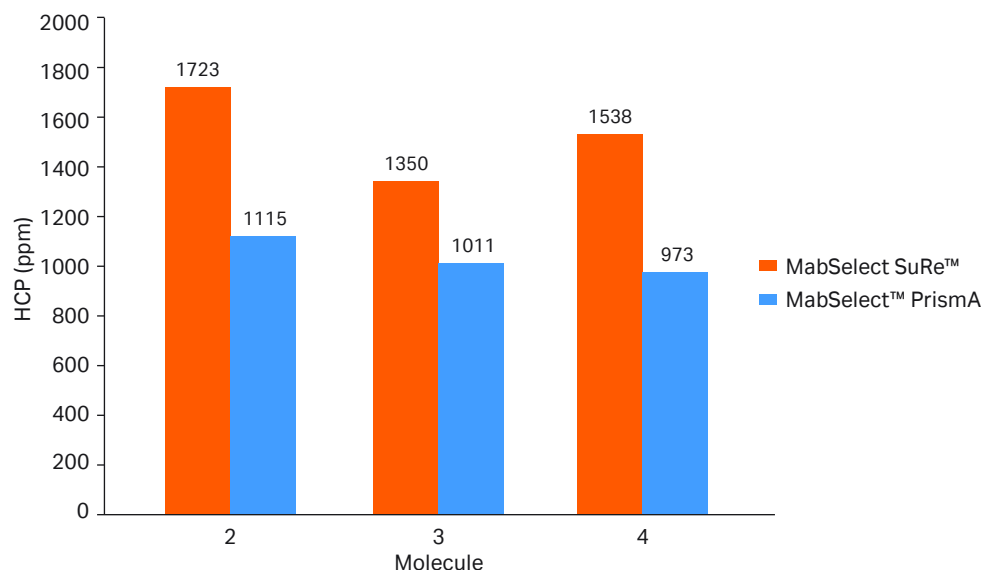

Fig 4. HCP reduction content in samples with different Fc-based antibody constructs using either MabSelect™ PrismaA or MabSelect SuRe™ resin.
Our inhouse data has also been confirmed in several customer evaluations (1). However, elution pH and elution pools should always be evaluated for the specific target molecule to be purified at relevant load. The significantly higher load for MabSelect™ Prisma compared with MabSelect SuRe™ resin can in some cases result in a higher elution pH for molecules as seen in Figure 3. In the same case study, lower host cell protein (HCP) concentration was observed in eluate with the higher elution pH (Fig 4).